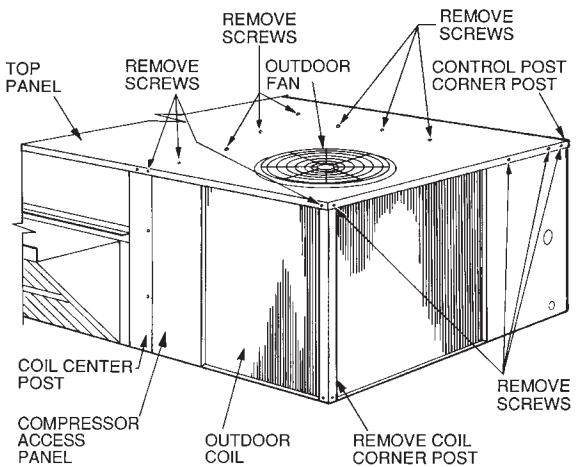

Fig. 45 – Cleaning Outdoor Coil
The high space set point is used for DX (direct expansion) cooling control, while the economizer space set point is a calculated value between the heating and cooling set points. The economizer set point will always be at least one degree below the cooling set point, allowing for a smooth transition from mechanical cooling with economizer assist, back to economizer cooling as the cooling set point is achieved. The compressors may be used for initial cooling then the PremierLink controller will modulate the economizer using an error reduction calculation to hold the space temperature between the heating and cooling set points. (See Fig. 45.)
3. Remove the outdoor coil corner post. (See Fig. 45.) To hold the top panel open, place the coil corner post between the top panel and center post. (See Fig. 46.)